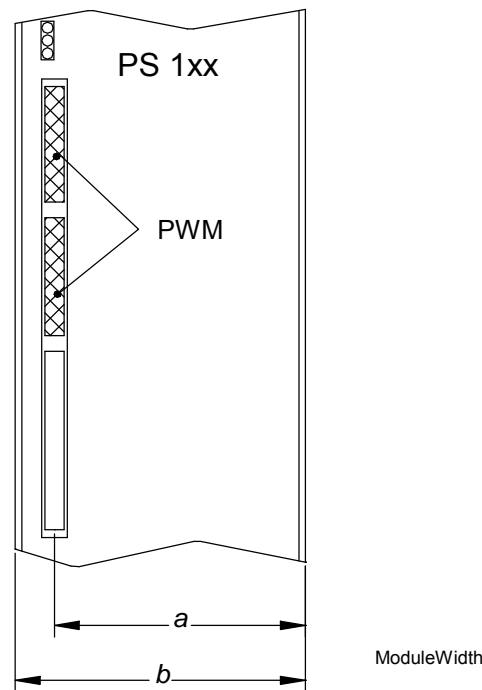

Figure 2-1, Module Width Measures
1. See **Table 2-12** for distance *a* (See **Figure 2-1**) of the PWM input on the power module.